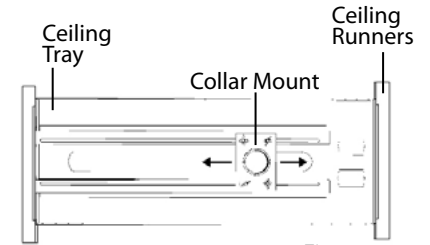

Fig 1
- Place the Ceiling Tray in the grid above a 24" x 24" or 24" x 48" false ceiling tile so that lip of Ceiling Tray rests on ceiling runners (Fig 1).